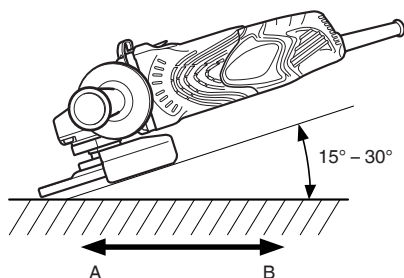

Fig. 2
Do not apply the entire surface of the depressed center wheel to the material to be ground. As shown in **Fig. 2**, the machine should be held at an angle of $15^\circ - 30^\circ$ so that the external edge of the depressed center wheel contacts the material at an optimum angle.
3. To prevent a new depressed center wheel from digging into the workpiece, initial grinding should be performed by drawing the grinder across the workpiece toward the operator (**Fig. 2 direction B**). Once the leading edge of the depressed center wheel is properly abraded, grinding may be conducted in either direction.